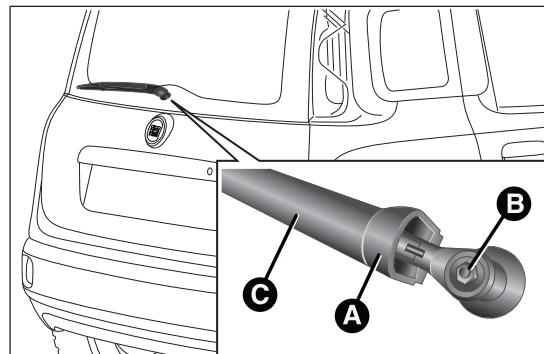

fig. 158
- ☐ raise cover A fig. 158, undo nut B and remove arm C;